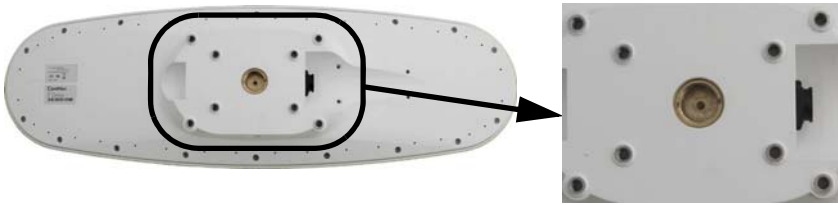

Figure 2-7: Flush mounting holes on bottom of G2/B
The bottom of the G2/B contains eight holes (two sets of four holes) for flush mounting the unit to a flat surface (Figure 2-7). The flat surface may be something you fabricate per your installation, an off-the-shelf item (such as a radar mounting plate), or an existing surface on your vessel.
2. Use the supplied template or photocopy the section of the G2/B that contains the eight mounting holes (see Figure 2-7) for use as a template to plan the mounting hole locations. Use the inner four holes or the outer four holes per your installation.